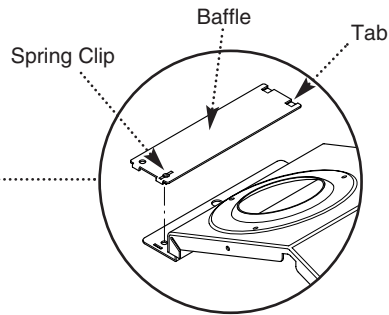

Fig. 44
10. Ease the front edge of the left hand baffle upwards, disengaging the spring clip. Disengage the tab on the baffle from the slot in the fan hood (Fig.44).